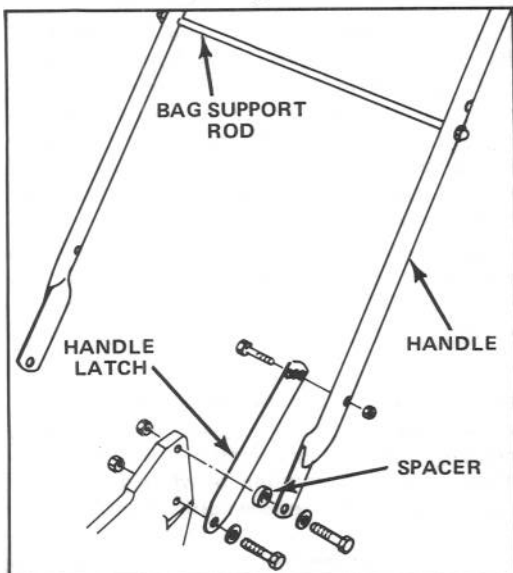

Figure 1
1. Mount handle to outside of mower housing, using top hole, with (2) 5/16-18 x 1-1/2" lg. capscrews, washers, spacers and nylon insert locknuts as shown in Fig. 1.
2. Mount handle latches to outside of mower housing, using bottom hole, with (2) 5/16-18 x 1-1/4" lg. capscrews, washers and locknuts as shown in Fig. 1.
3. Secure handle latches to handle with (2) 5/16-18 x 1-1/2" lg. capscrews and nylon insert locknuts (Fig. 1). Position locknuts on outside of handle.
4. Slide bag support rod thru lower mounting holes in handle and secure each end with (2) cap locknuts (Fig. 1).